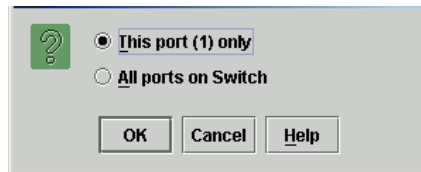

Figure 3-38 Clear Link Incident Alert(s)
- b. Select *Clear Link Incident Alert(s)*. The *Clear Link Incident Alert(s)* dialog box displays (Figure 3-38).